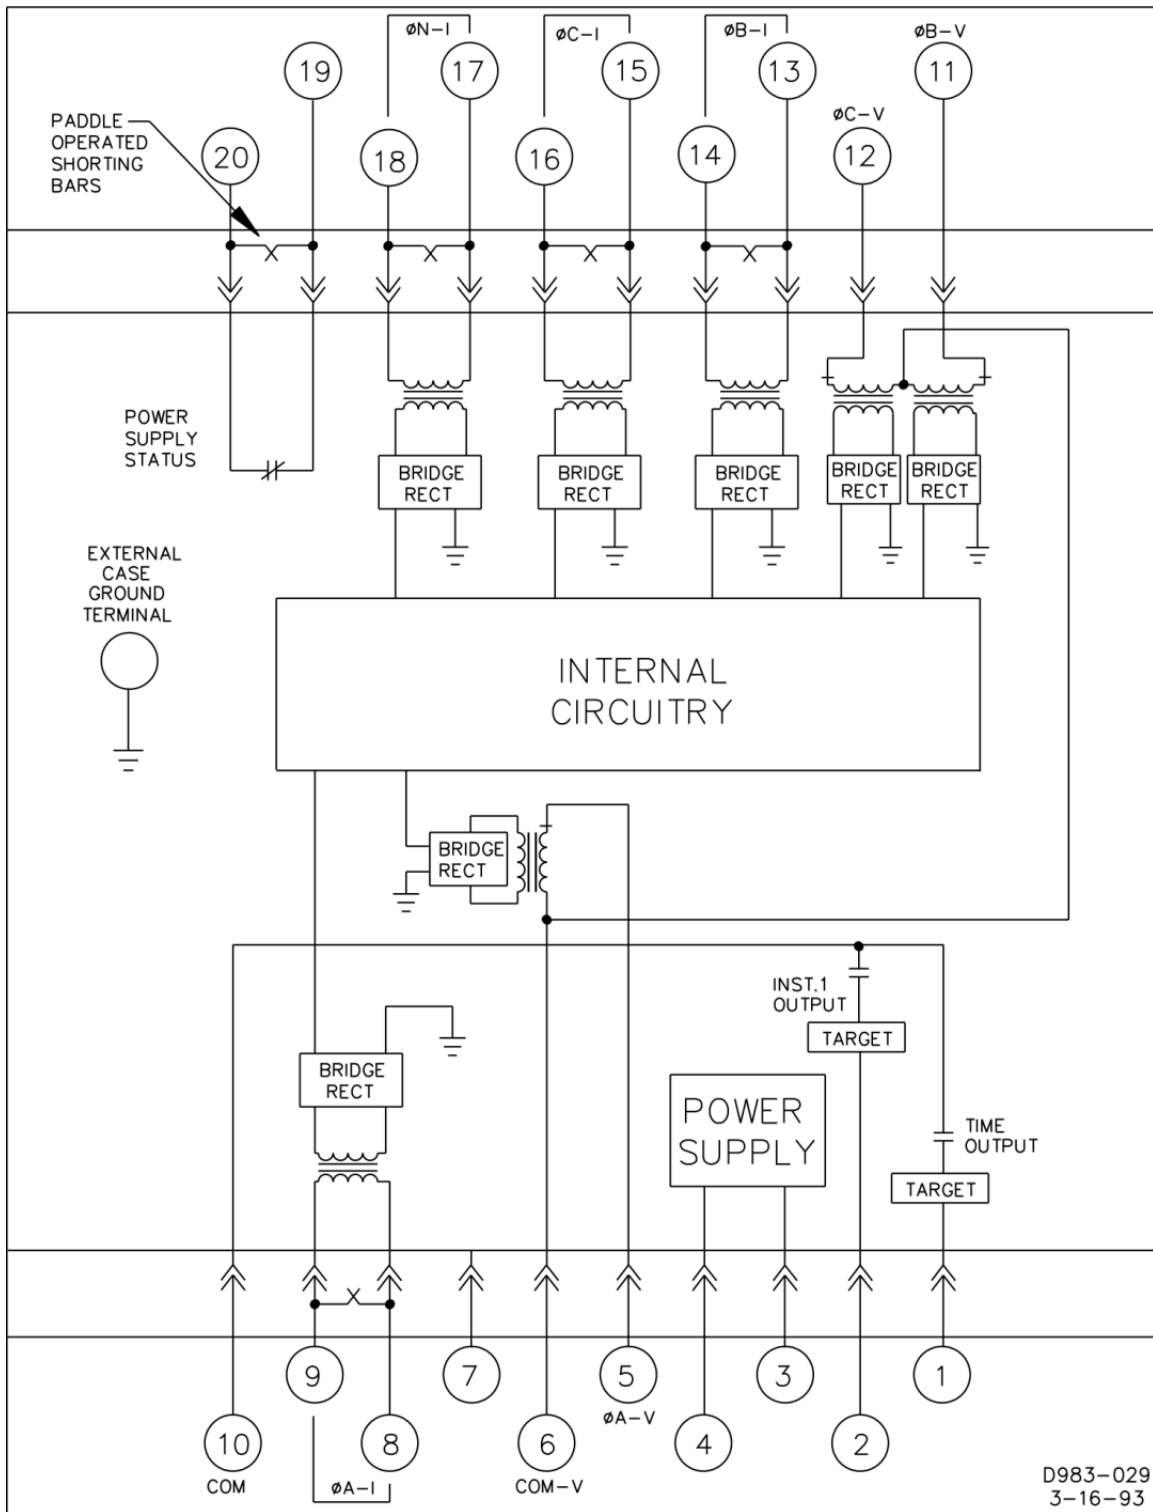

Figure 4-25. Typical Internal Diagram, Sensing Input Type U or W
- Figure 4-25: Typical Internal Diagram, Sensing Input Type U or W